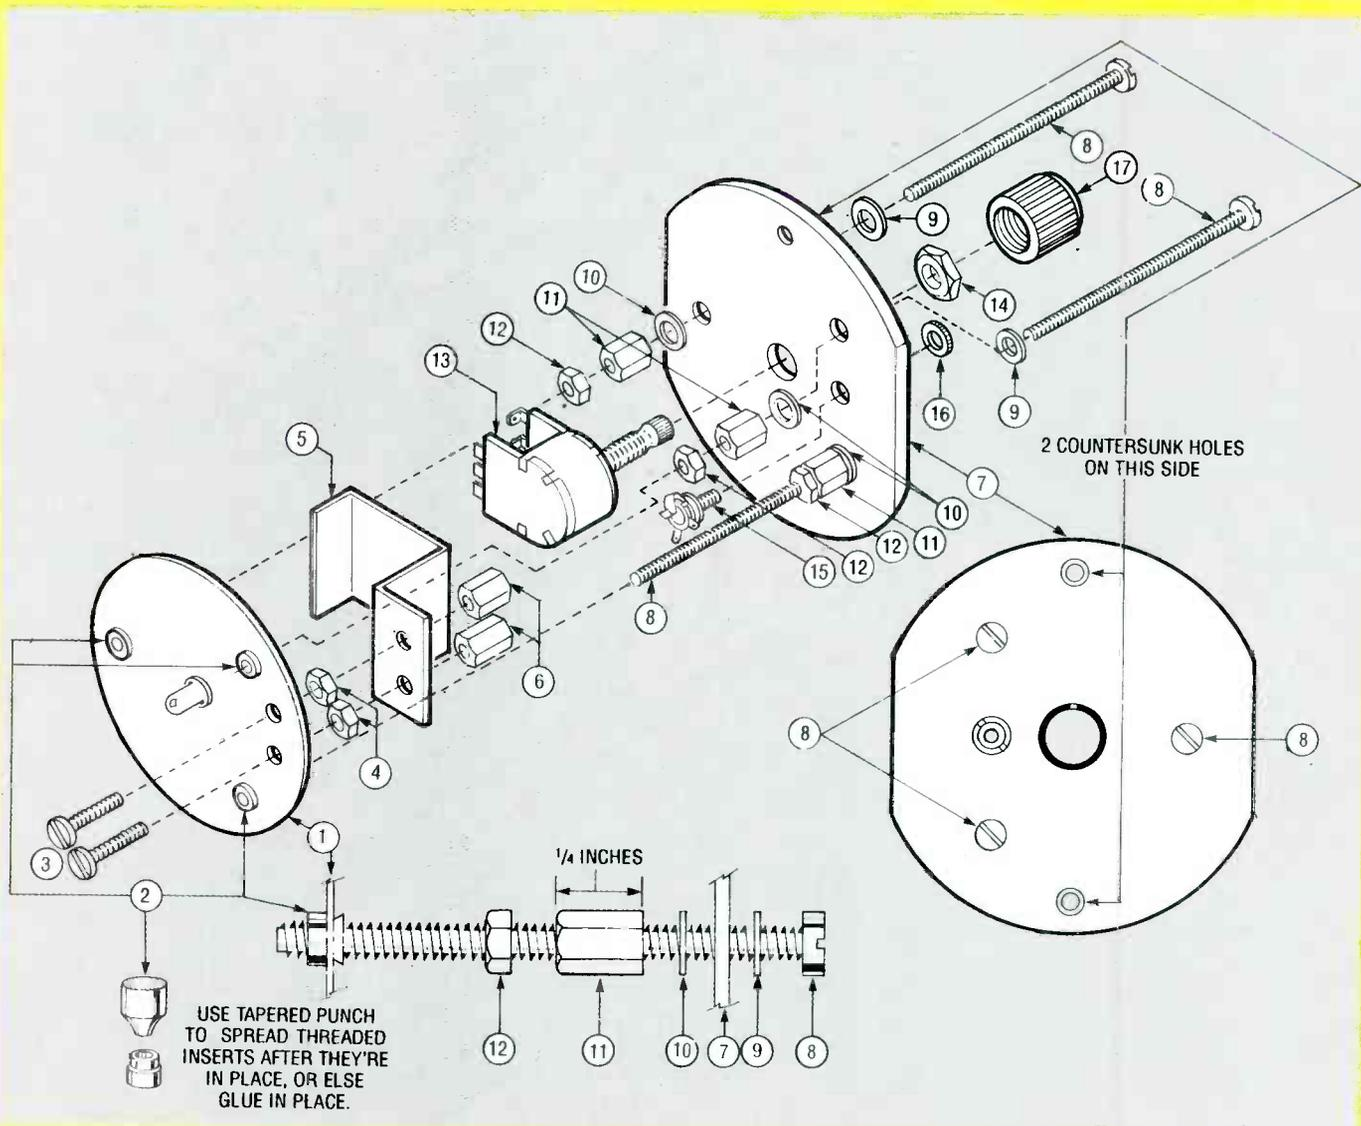

FIG. 1—THE TRANSMITTER is assembled as shown. Look over the assembly instructions carefully before starting the project.
Let's start our mechanical assembly with the transmitter. To begin (Fig. 1), take the completed PC board (1) and install the LED (2) and the shaded insert (2a) by soldering, done by first inserting the narrow end of an insert through each of the holes on the edge of the PC board. (The narrow end should now be protruding on the solder side of the board.) By resting the wide end of the insert on a *solid* surface, the narrow end is spread apart by giving it a whack with a tapered punch. Otherwise, you course some *kerf* (fine or fine) into the silicon to separate them to the board.
Next, take two 1/2-inch long screws (3), insert them in the proper holes, and secure them with a nut (4). Then place the battery holder (5) over the ends of those screws as shown in Fig. 1, and secure the battery holder with two 1/2-inch long threaded spacers (6). (The battery is held down by tightening those spacers with the battery in place. Just be sure that the battery has
PARTS LIST FOR THE TRANSMITTER (FIG. 1)